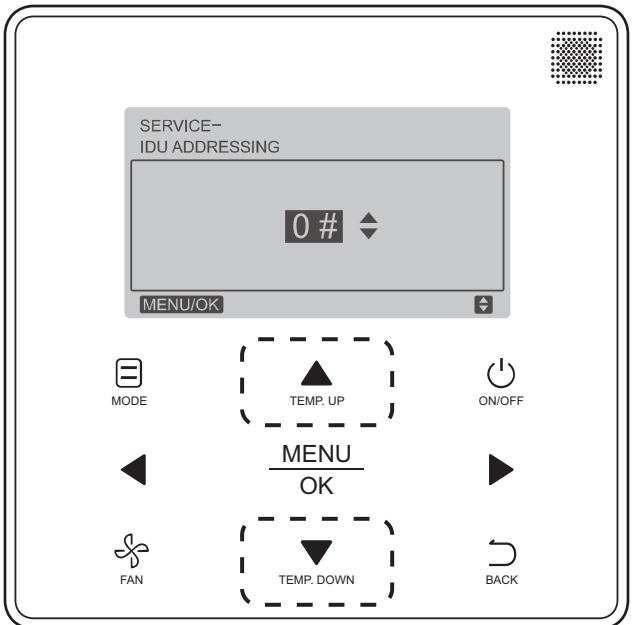

Fig. 33 —Programmable Controller Setting IDU Address
3. Press **TEMP. UP** or **TEMP. DOWN** to choose the address you want to set as shown in Fig. 33. Press **MENU/OK** to send this address to the IDU.